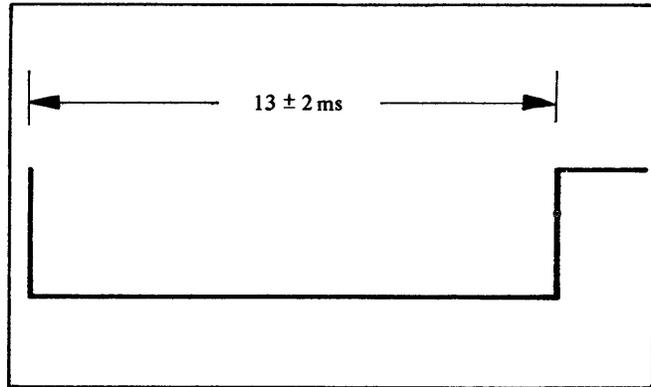

Figure 4-6. Short Servo Gate
5. Obtain the signal shown in figure 4-6, and adjust R133 on the SCM board such that the pulse width is 13 ± 2 milliseconds.